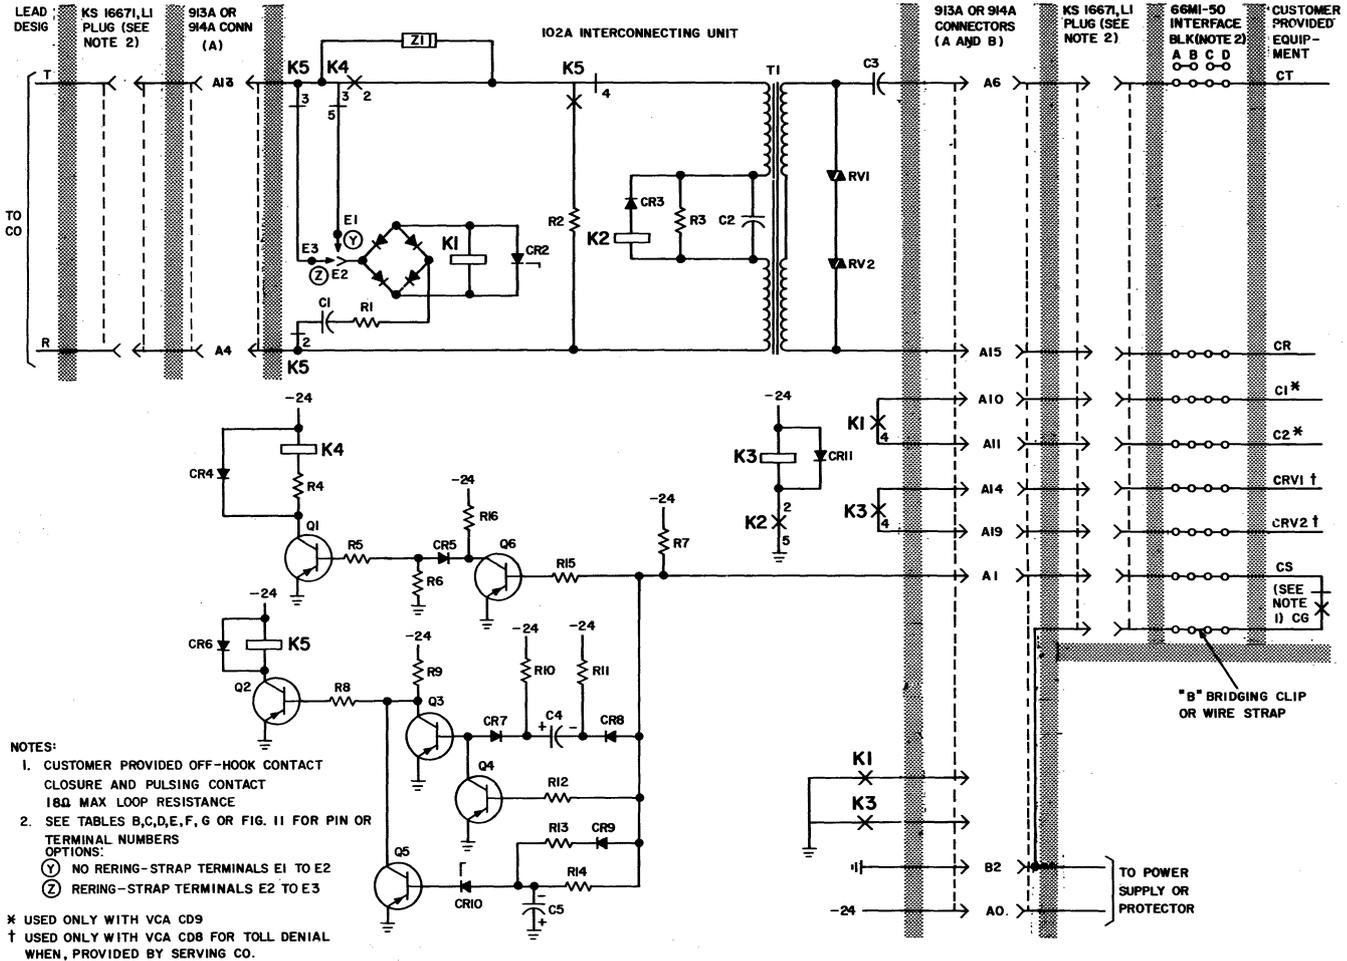

Fig. 13—Schematic—102A (MD) Interconnecting Unit
3.14 Place proper option straps using 24-gauge bare wire for options W, Y, or Z from Fig. 13 or 14 for local conditions. Always use option Z for the 102A IU.
A. 102A Interconnecting Unit (Fig. 13)